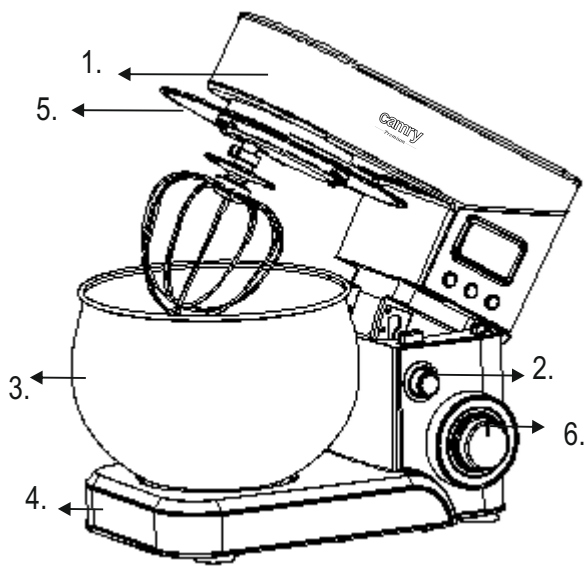

Fig. 1
#### DESCRIPTION OF THE DEVICE (figures 1 and 2 and 3)
4. Place the bowl (3) on the base (4), then turn the bowl (3) in clockwise until it locks.
5. To lower the top of food processor (1), press the tilt button (2) and push by one hand the top of food processor (1) down. A click sound will be heard when the part has reached the correct position. Make sure the bowl cover (5) is fixed in place (see figure 1).